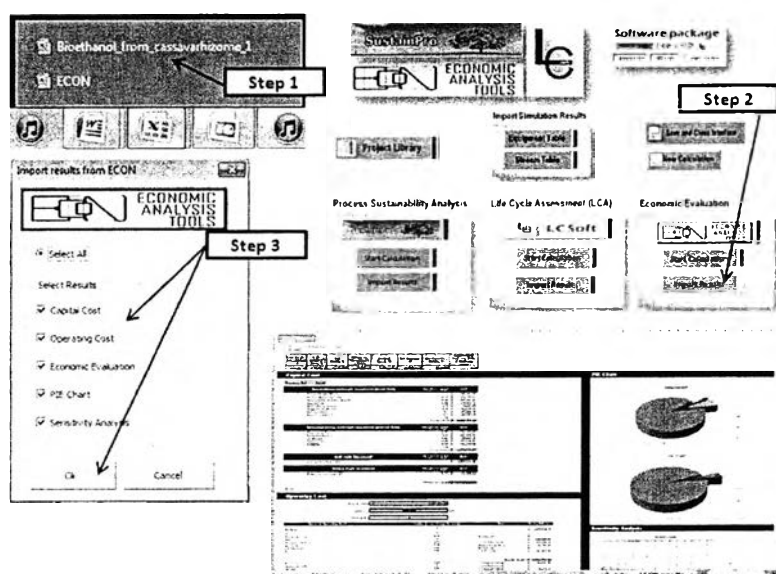

Figure B.26 Steps to perform economic evaluation (Continued)
Step 1: Open interface which is “Bioethanol_from_cassavarhizome_1” window (Figure B.26).